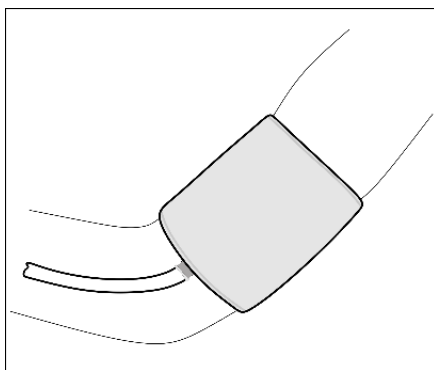

Figure 11: Applying the Cuff
- The cuff tubing points down, see Figure 11.